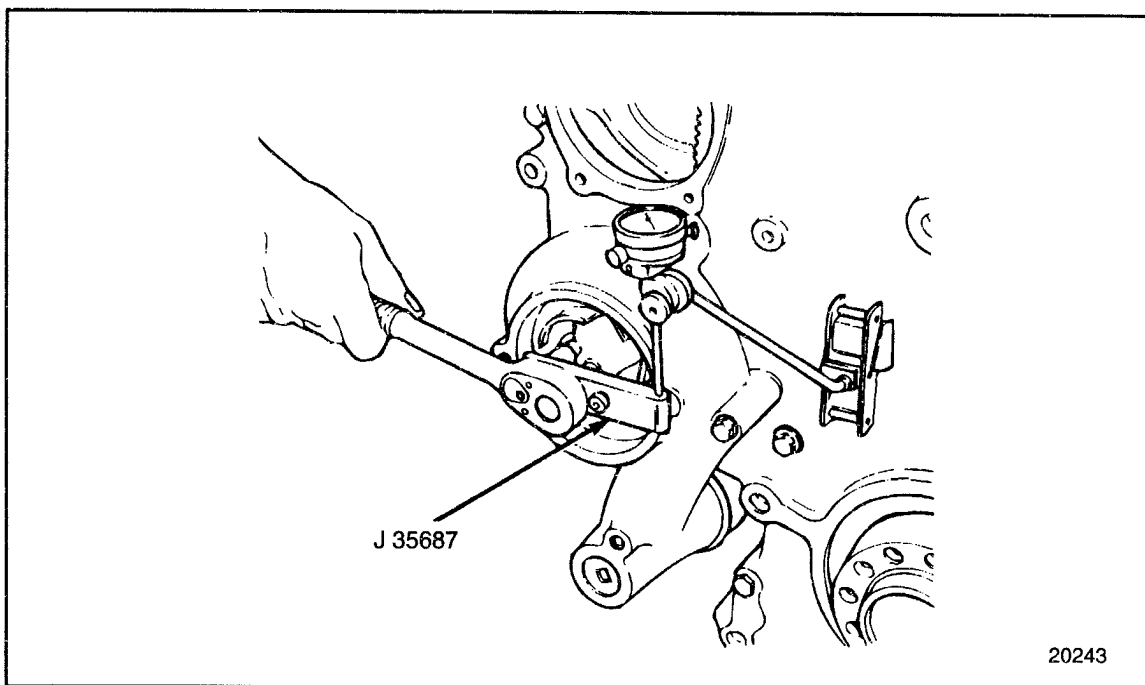

FIGURE 1-265 Water Pump Drive Gear Lash Measurement
- [a] Install the water pump impeller slip tester, J 35687, to the water pump impeller with two 5/16-18 bolts, using the instructions supplied with the tool. See Figure 1-265.